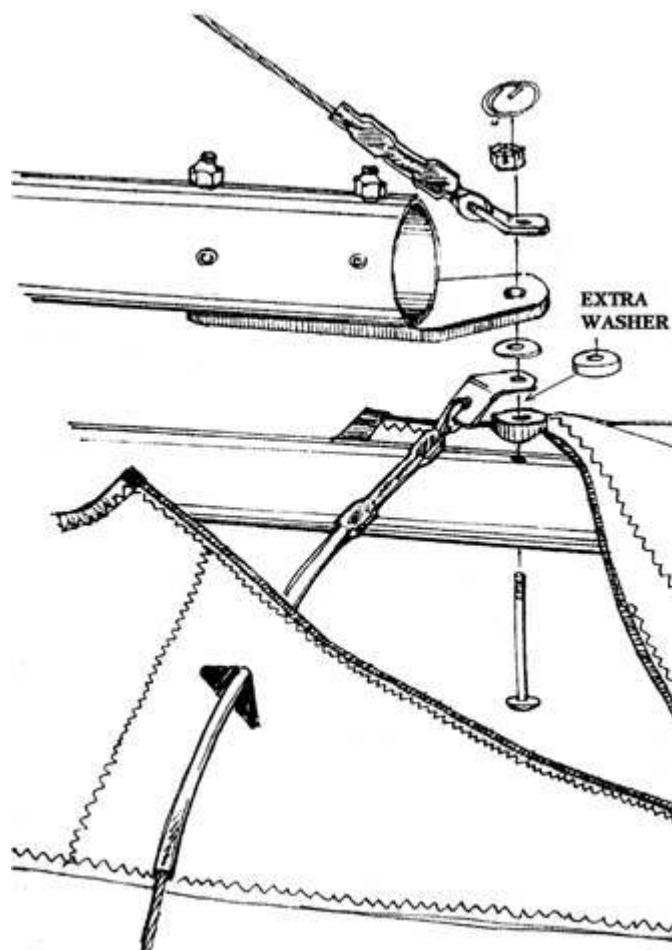

Fig. 15
2.1.16. Assemble the leading edge / crossbar junction (Fig. 15).